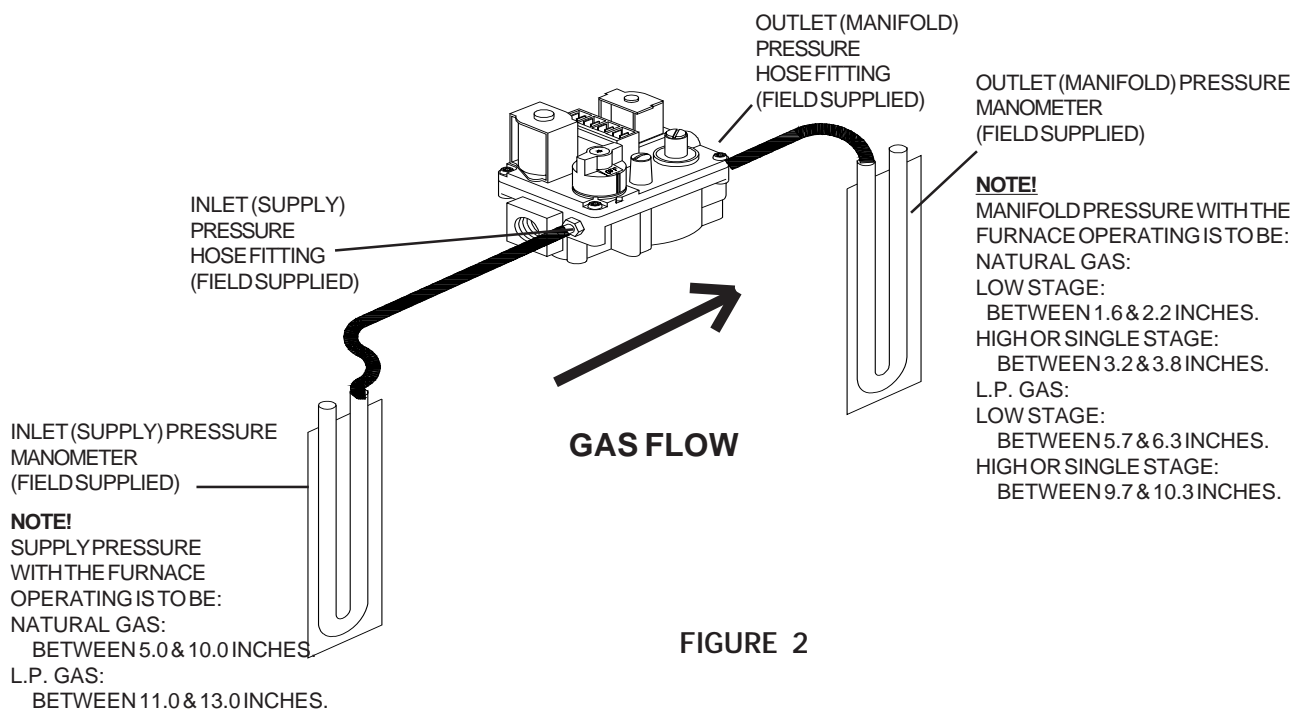

FIGURE 2
10. Connect both the inlet and outlet gas valve barb fittings (installed in step 8) to (2) separate manometers. See figure 2.
15. After the burner is in operation for 15 minutes, check and adjust, if needed, the supply and manifold pressure. See figure 2.